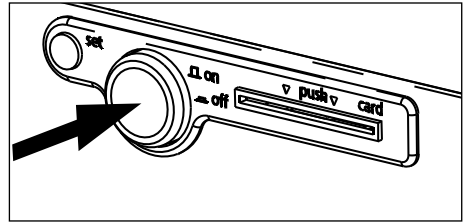

Fig. 22 Switching off incubator
1. Switch off appliance. To do this, press the main switch on the operating panel so that it clicks into place in the appliance (see Fig. 22).